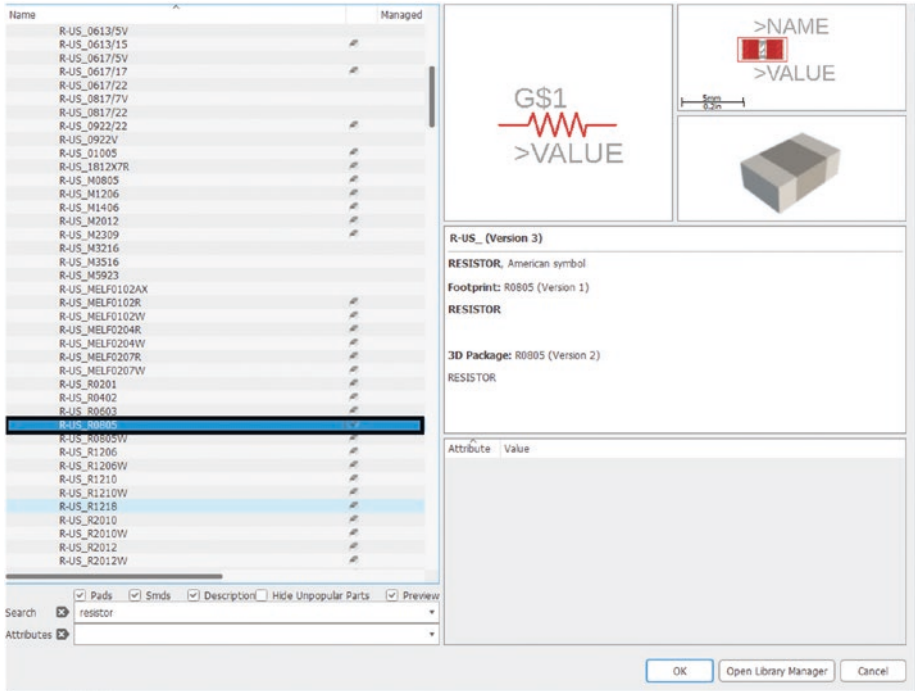

Figure 5-39. Select the R0805 resistor
26. Go to Resistor ► R-US ► R-US_R0805 and add it to the schematic window. See Figure 5-39.